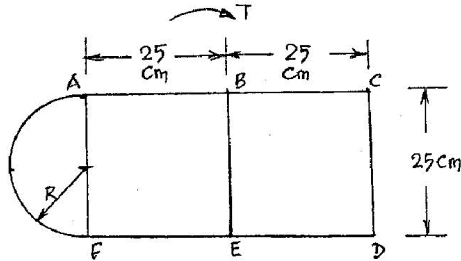

Fig. 1
11. Obtain the shear flow around a three cell box beam (Fig. 1) when it is subjected to a torque of  $T = 100 \text{ kNm}$ . The thickness of vertical members, horizontal members and semicircle are 1.25, 0.75 and 0.6 cm respectively.